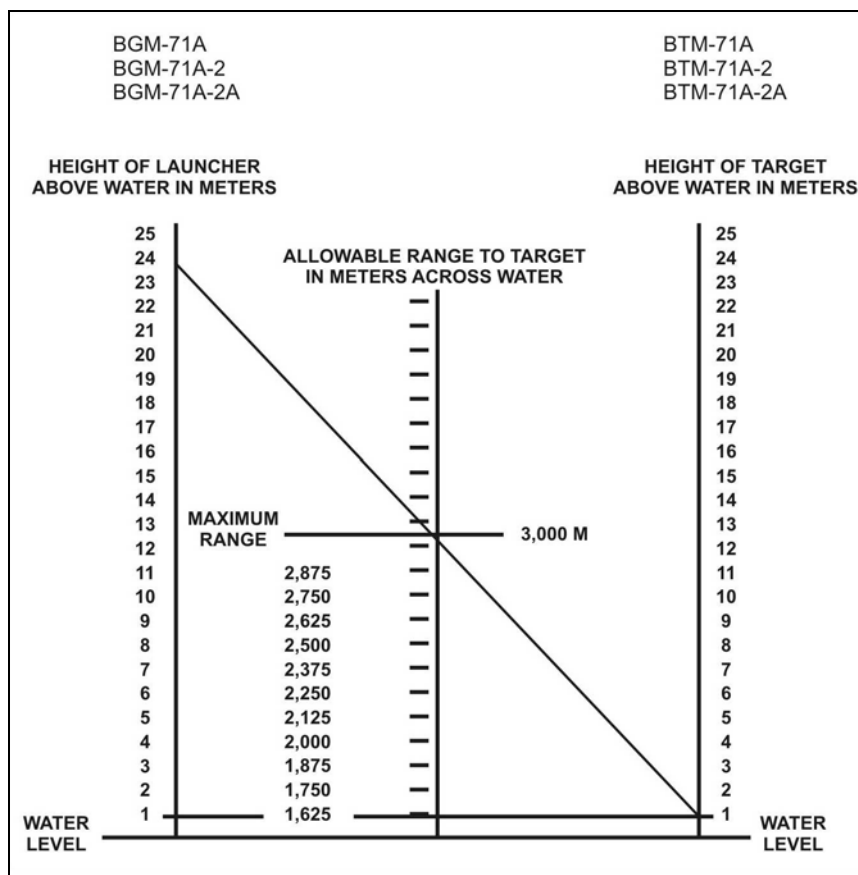

Figure 6-47A. Extended range over water (basic TOW).
(2) For firing over water with a TOW or at a target that sits above the surface level of the water, the BC determines the type of missile used, then uses Figure 6-47A (basic TOW, page 6-44) and 6-47B (all TOWs after basic TOW, page 6-45), to determine the extended range of missiles.